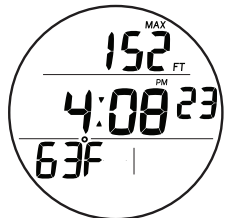

Fig. 131 - GAUG DIVE ALT
**GAUG DIVE ALT**, information includes (Fig. 131) -